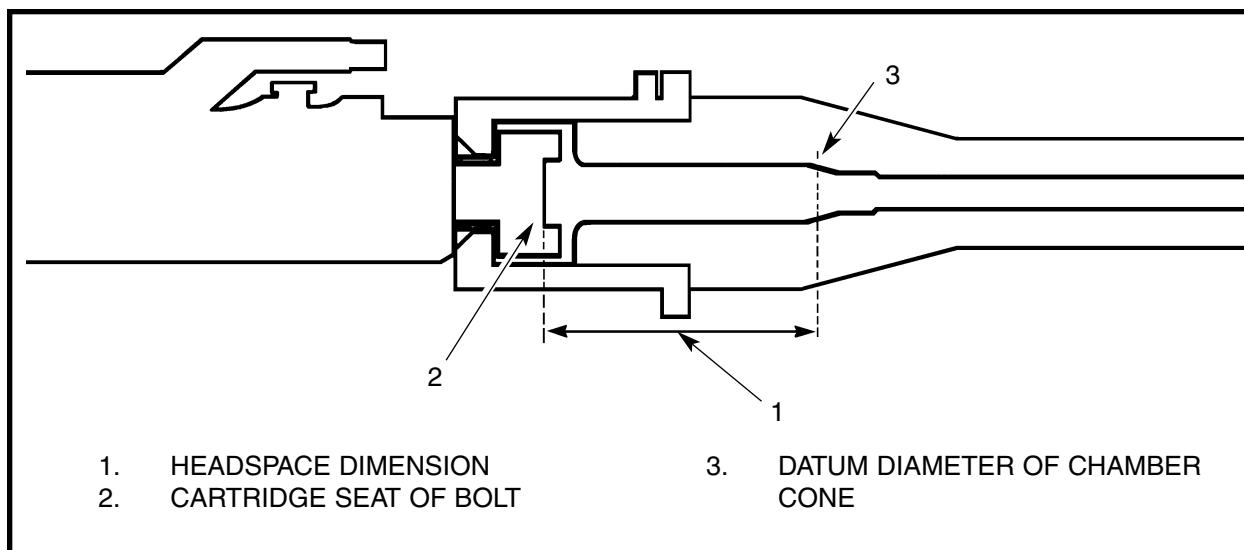

Figure 4-4 Headspace Dimension Detail
7. See Figure 4-4. The headspace dimension (1) is the distance between the face of the cartridge seat of the bolt (2) and the datum diameter (3) of the cone at the front of the chamber. Headspace for the C7 and C8 weapons shall be between 37.10 and 37.42 mm. Check headspace with the “GO” and “NOT GO” headspace gauges by the following procedure: